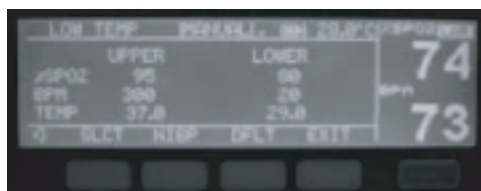

Figure 9: SpO₂, BPM and Temperature Alarm Limits Setting
- Press **LIMIT** to view upper and lower limits of %SpO₂, BPM, TEMP. Refer to Fig.9.